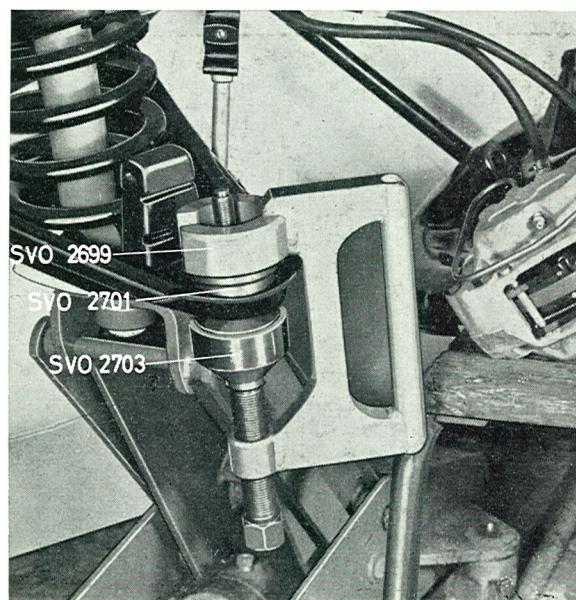

Fig. 6-24. Fitting the ball joint, lower wishbone
7. Press the ball joints in the wishbone with tools SVO 2699 + 2701 + 2703, see Fig. 6-24. Should the